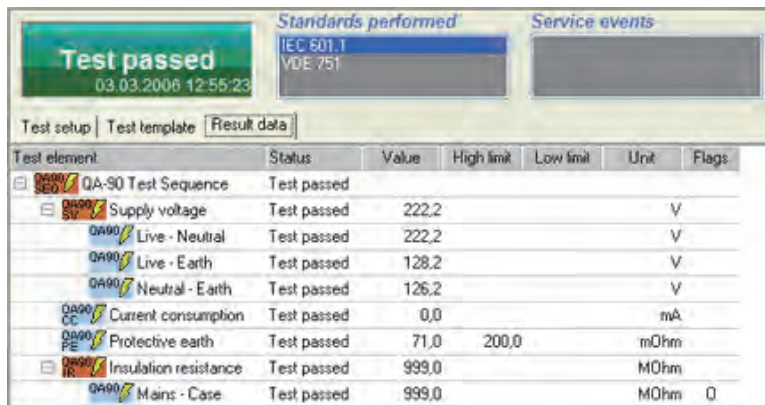

Figure 3-60. QA-90 Safety Test Record
- Click the **Next** button (➡) again to create a test record. The test record is shown in Figure 3-60.